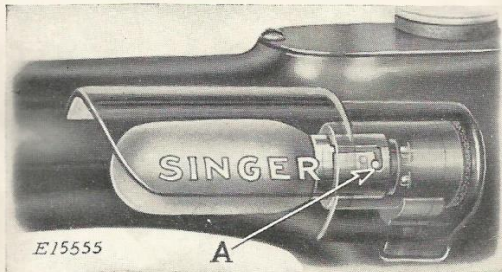

FIG. 3. REPLACING THE BULB
To insert a new bulb. Press the bulb into the socket and turn it over toward you until the bulb pin (A) enters the notch in the socket, as shown in Fig. 3.